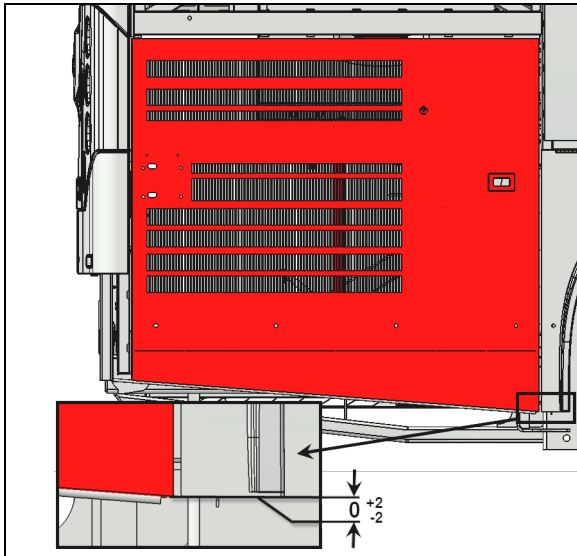
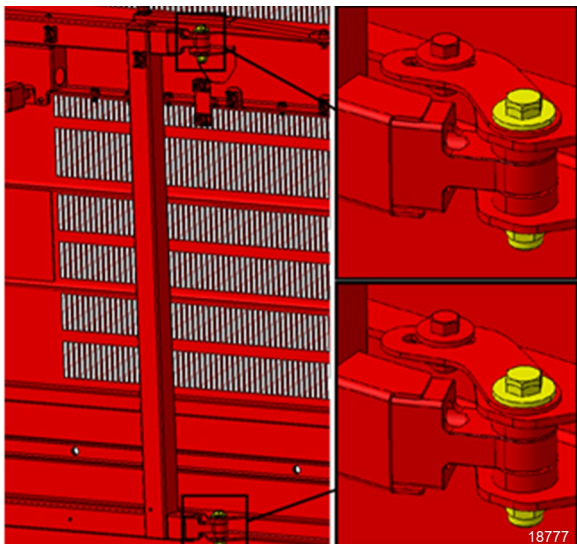

FIGURE 55
FIGURE 56
- If the vertical position is out of tolerance, release the locking plate (Figure 56) and rotate the door using the adjustment provided on the inner side of the door, at the attachment points between the arm and the door (FIGURE 55).